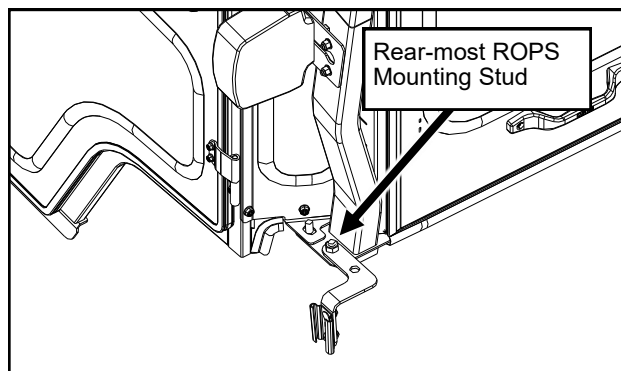

Fig. 20.3 (SMV Sign Bracket - Installed)
- 20.3** Remove the OEM nut and washer from the rear-most ROPS mounting stud on the left hand side of the vehicle. Reinstall the SMV sign bracket onto this stud, as shown in Fig. 20.3. Retighten nut to 55 ft-lbs.